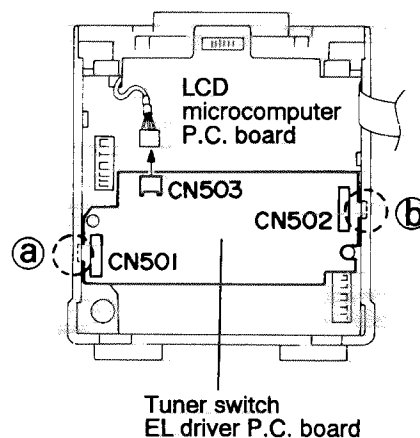

Fig. 5-20
■ **Removing the tuner switch EL driver P.C. board and microcomputer P.C. board** (See Figs. 5-20 and 5-21)
2. • Remove the one screws (13).